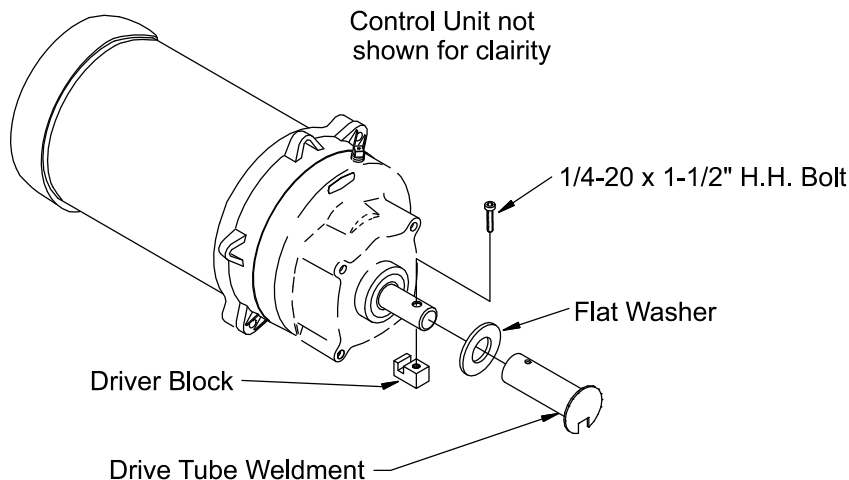

Figure 32. Auger Driver Components
5. Slide the Drive Tube and flat washer over the output shaft on the Power unit, **see figure 32.**